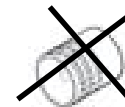

Fig. 5.10
- It is forbidden the installation of caps or horizontal deflectors (widely used in gas boilers, *see Fig. 5.10*) as terminal in chimneys due to that they can lead to pressurize the stove and taking place combustion problems.